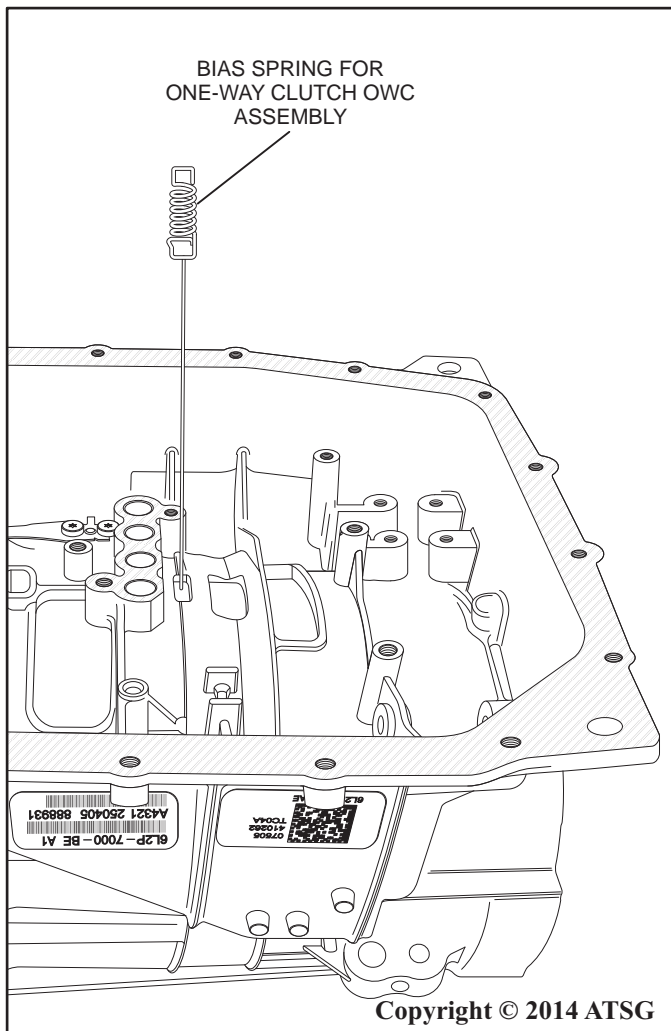

Figure 138
21. Install the bias spring into the case in the notch opening of the one-way clutch (OWC) as shown in Figure 138.